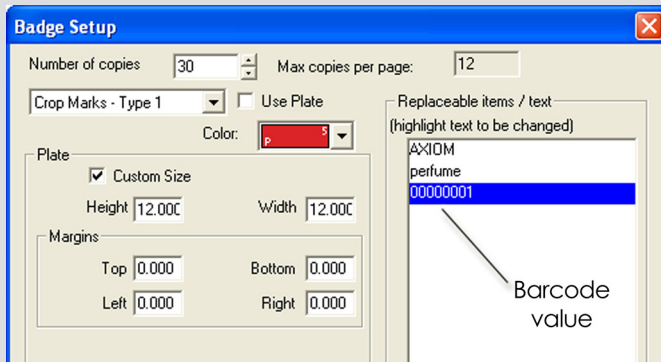

Fig. 63 - For this example, we only want the barcode value to be variable, so only the barcode value is selected.
2. In the **Badges Setup** dialog (Fig. 63), set the various control according to your production setup.